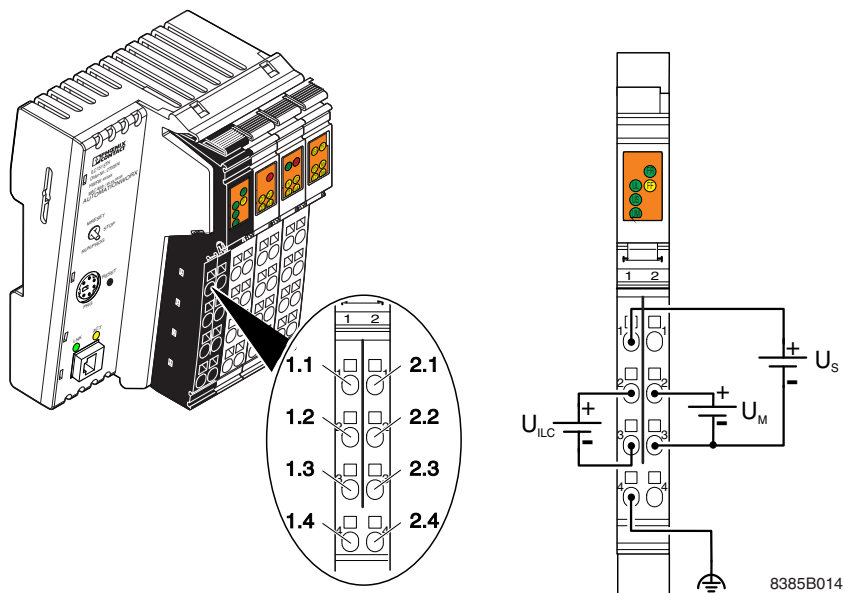

Figure 2-23 Supply voltage connection
1. Connect the power supplies to the connector for power supply as shown in Figure 2-23.
1. The segment voltage can be supplied separately at terminal points 1.1 and 2.3 (GND) (see Figure 2-23 on page 38).